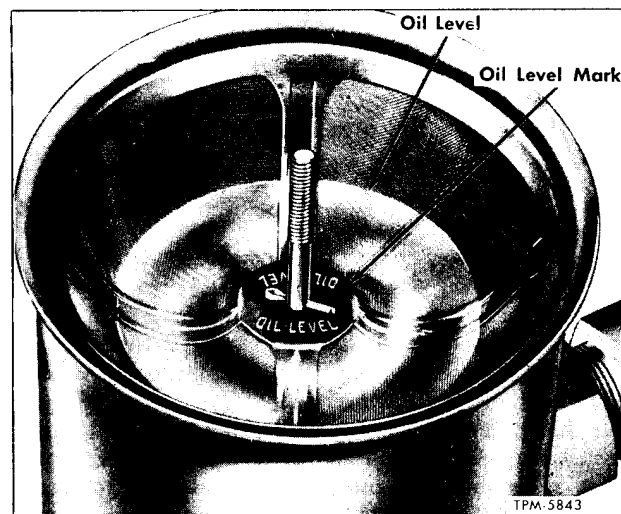

Figure 80—Oil Level in Condenser Fan Drive Fluid Reservoir
5. Make sure all air is expelled from system and reservoir is full to "OIL LEVEL" mark (fig. 80). Check for leaks at all line connections.